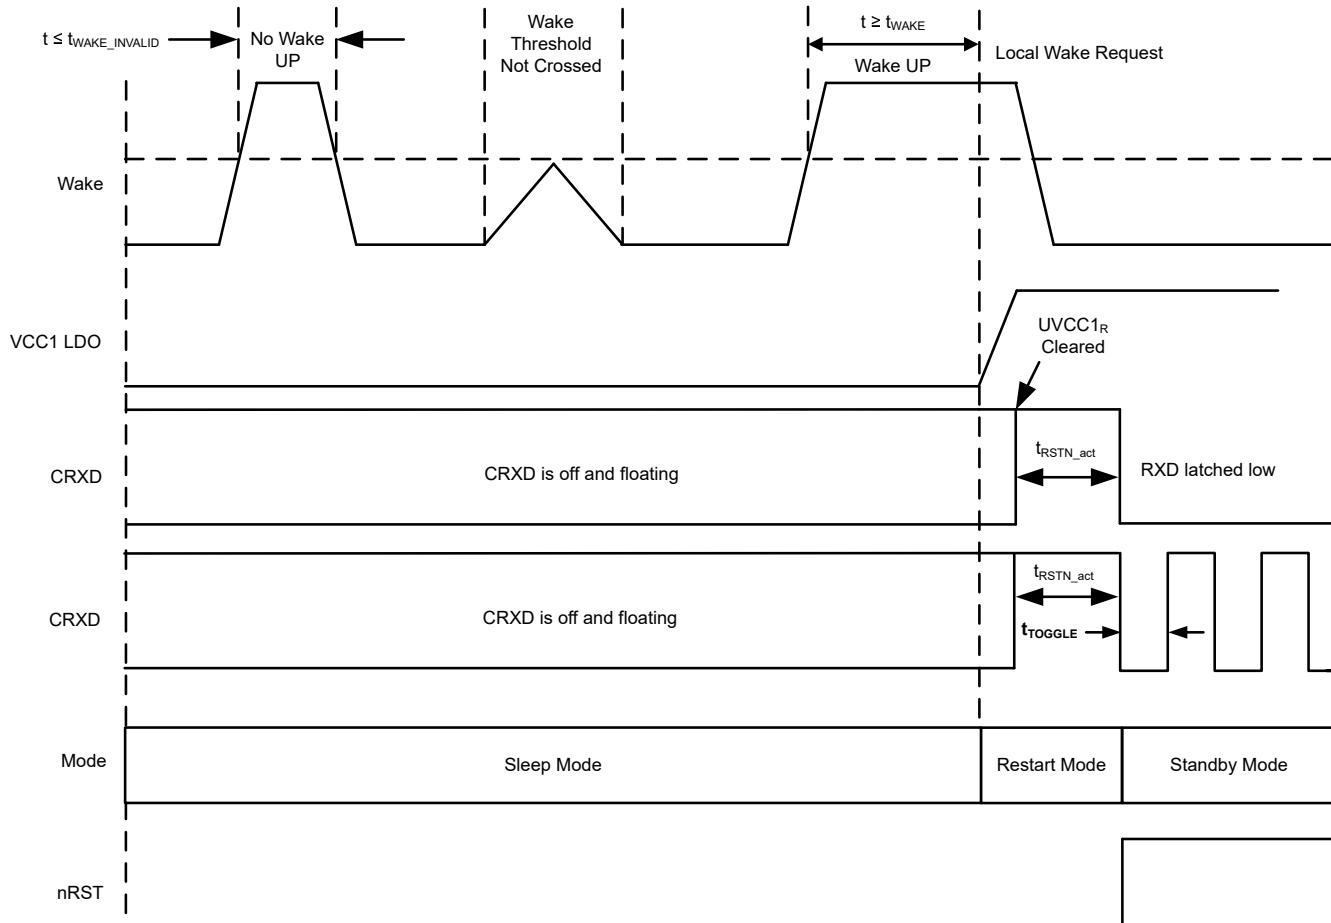
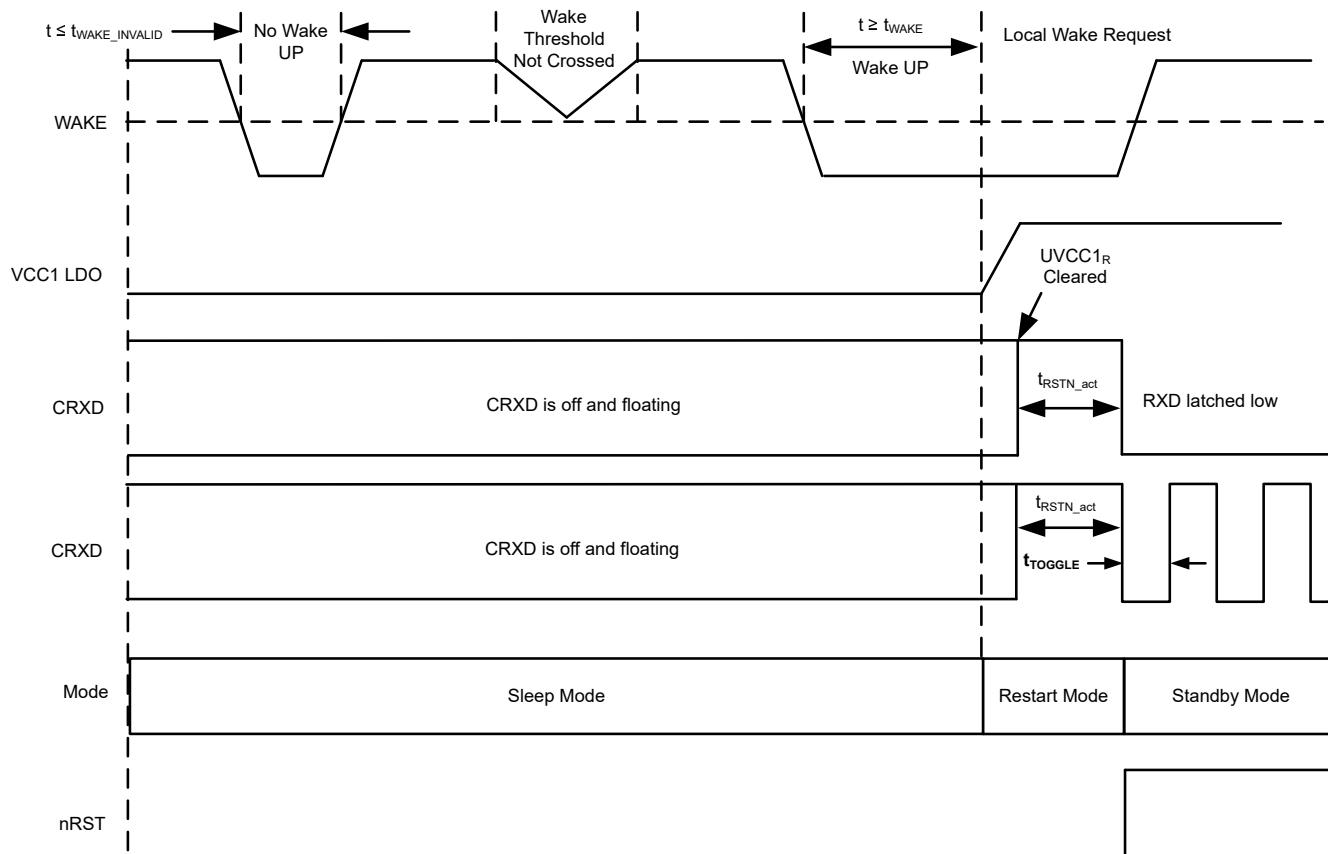

Figure 8-18. Local Wake Up – Rising Edge
Figure 8-19. Local Wake Up – Falling Edge
The WAKE_x pins default to static sensing wake (default values of WAKE_x_SENSE register bits in WAKE_CONFIG2, WAKE_CONFIG4 and WAKE_CONFIG5 registers). The WAKE_x pins default to bi-directional input but can be configured for rising edge and falling edge transitions, see Figure 8-18 and Figure 8-19, by using WAKE_CONFIG register 8'h11[7:6]. WAKE pins are ground based wake inputs and can be used with a switch to ground or V_{SUP}. The WAKE_x pins input thresholds can be based on VCC1 levels which allows a direct connection to the processor or a switch to the VCC1 rail. If the terminal is not used, connect it to ground to avoid unwanted parasitic wake up. Once the device enters sleep mode the WAKE_x terminals voltage level need to be at either a low state or high state for t_{WAKE} before a state transition for a WAKE input can be determined. A pulse width less than t_{WAKE_INVALID} is filtered out.
- Figure 8-18 and Figure 8-19 provide examples of a rising or falling edge WAKE input. RXD is pulled low once VCC1 > UVCC1, and standby mode is entered.